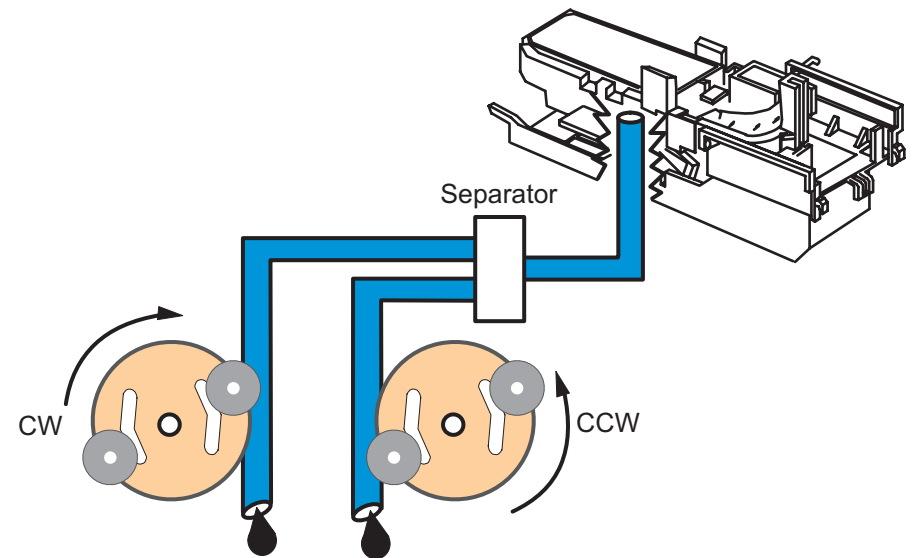

Figure 2-9. Ink Absorption Process
4. Once the drive is transmitted to the pressure roller (right), all parts used to drive the pump begin to act. The Stylus Color 900 has the right and left pressure rollers. However, since the black and color heads are included in one unit, the absorption tube is split in the middle so the 2 pumps can absorb ink in the printhead. See Figure 2-9 which explains the ink absorption process.